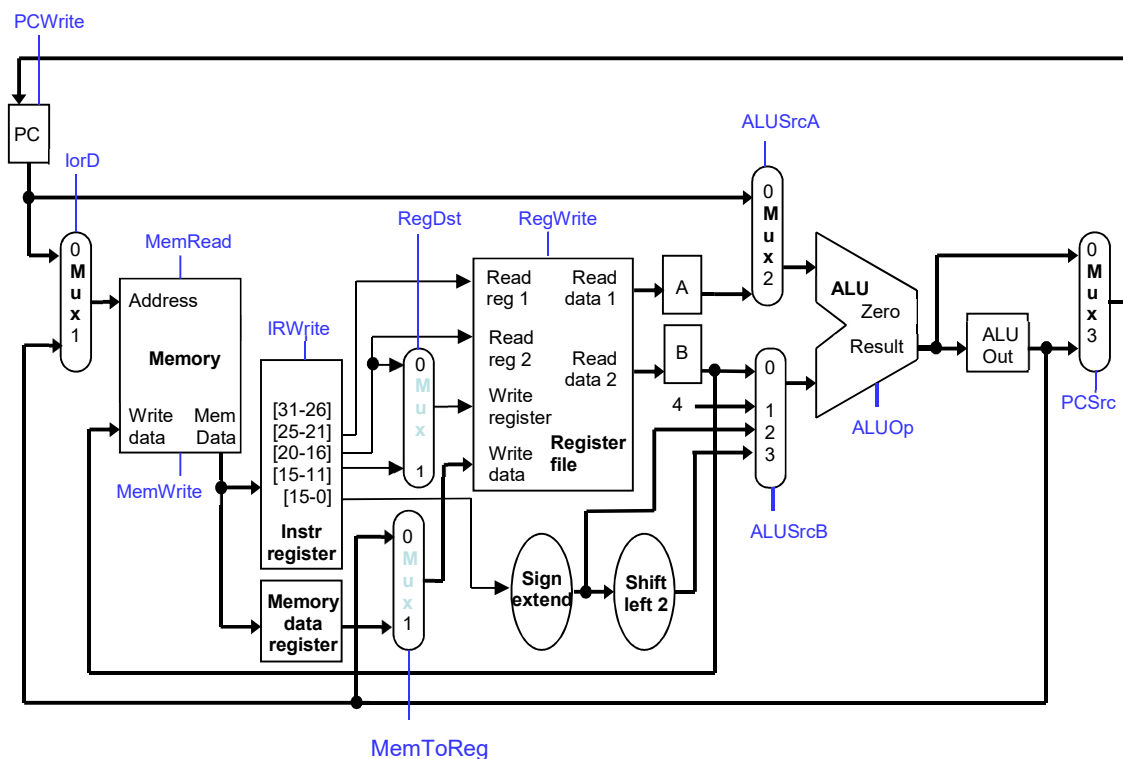

Figure 3.1 The Multicycle datapath of MIPS
The multicycle datapath of MIPS shown in Figure 3.1 will be used to answer the following question.
Suppose we run add, addi, lw, sw, and beq in the datapath shown in Figure 3.1.
- (a) (4 marks) Show what changes of the datapath shown in Figure 3.1 are needed to support **max3** instruction and explain how **max3** instruction is executed in the modified datapath. You should not need to modify the main functional units (the memory, register file and ALU), but you can make any other changes or additions necessary. Try to keep your diagram neat!